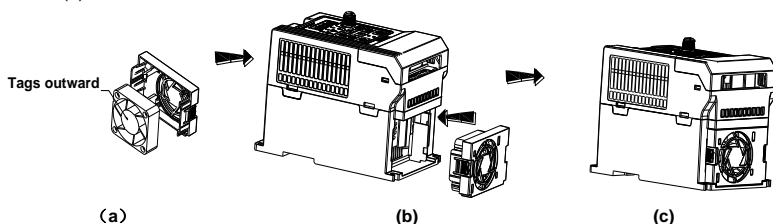

Figure 8-2 Install the fan
1. Clip fan vertically into the fan cover shown as figure 8-2(a);
2. Press elastic buckles of fan lead terminals toward internal down side with fingers shown as figure 8-2(b), meanwhile use a little harder to plug the lead terminal;
3. Vertically plug two elastic buckles of fan cover into the fan mounting rail of inverter shown as figure 8-2(c)